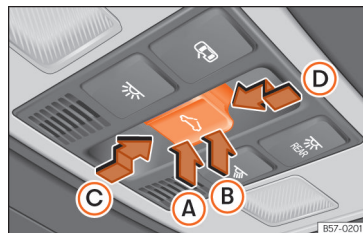

Fig. 63 On the headliner: glass roof button.
The \leftrightarrow \ggg Fig. 63 button has two levels. The first level moves the sunroof to its tilted position, opening or closing it fully or partially.
- Within approximately 5 seconds of having activated the roll-back function, press the **<<< >>> Fig. 63** button to the second level in the direction of arrow **(D)** until the sunroof closes completely.